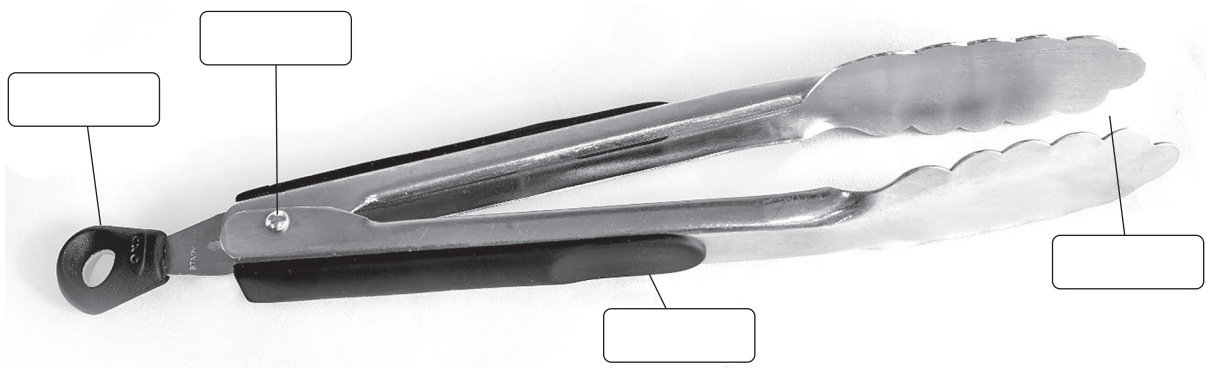

Fig. 3.1
- 3 Fig. 3.1 shows salad tongs, which are an example of a third order lever.
- (a) Add the positions of the **fulcrum**, **effort** and **load** to Fig. 3.1. [3]